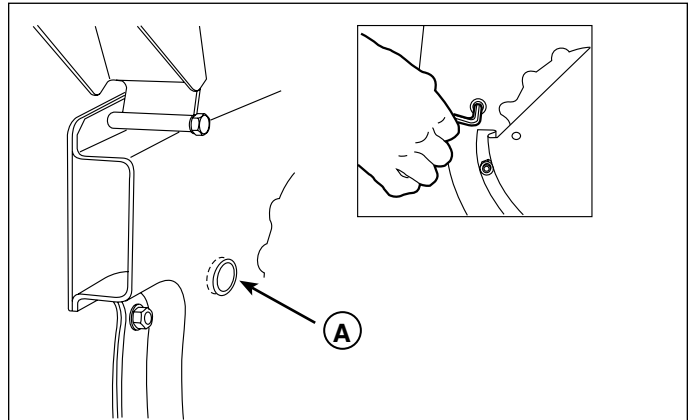

Figure 16. Access Hole
6. Rotate the rotor assembly so that the socket head capscrews that secure one of the chipper knives can be accessed through the rotor cover and access hole (Figure 16).